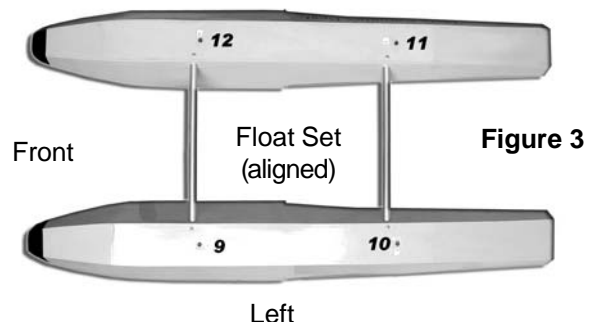

Figure 3
Step 7: Locate and position the floats on a soft surface. Apply low tack numbered labels (9,10,11,12) to the floats as shown in Figure 3.
Line the floats up so that they are parallel or very slightly "toed-in" to be no more than 1/16" (1-2 mm) closer together at the front than at the back. See Figure 3. Mark the tubes for reference.